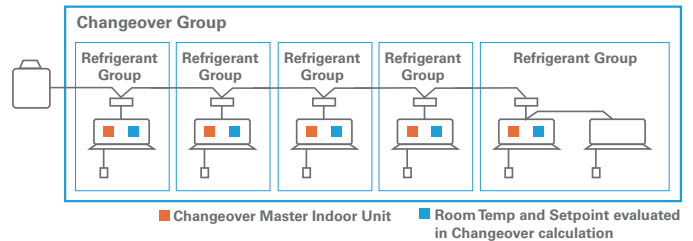

**Fig 13. Auto changeover Fixed method on the *iTM***
- c. Good method for prioritizing the representative indoor unit for the Heat Pump system (or multiple units on the same port of the BS Box in Heat Recovery system). (See Figure 13)